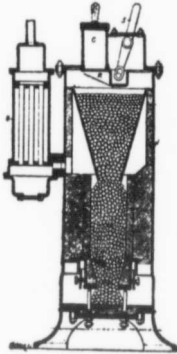

Fig. 3—The Taylor Producer.
M. Bernier's plant, while encouraging, was not very successful, although considerable improvements were made later on. M. Taylor & Co., of Paris, still further developed the producer, and a view of their plant is given in Fig. 3. This plant became a commercial success both in France and in Eng-